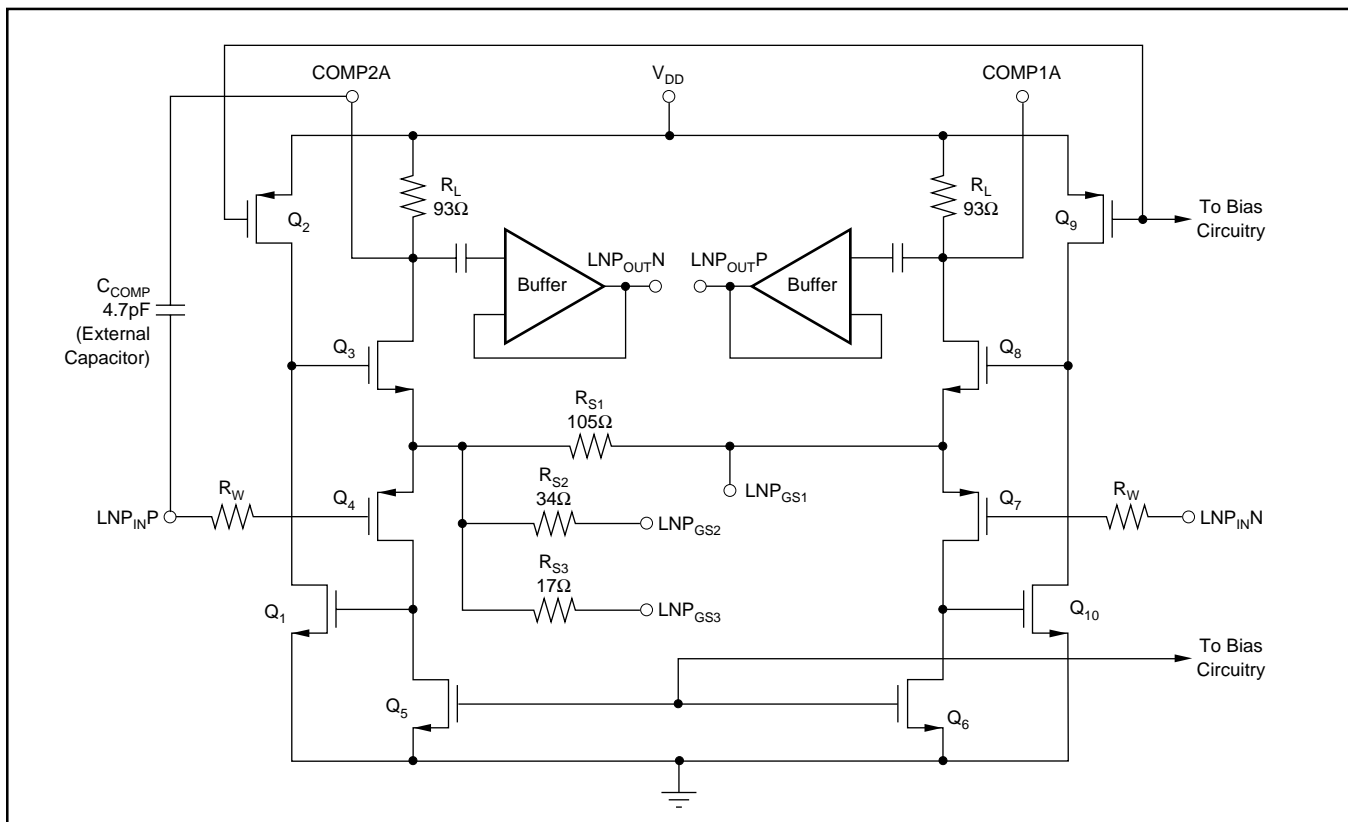
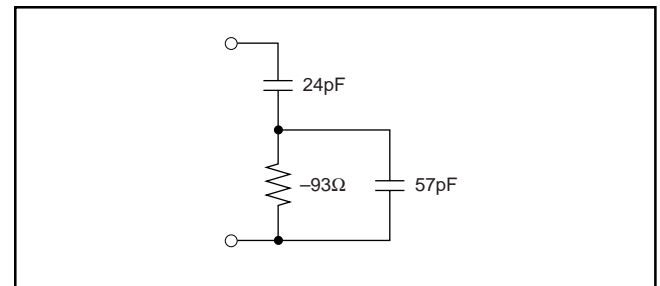

FIGURE 4. Schematic of the Low Noise Preamp (LNP).
FIGURE 11. VCA2613 Input Impedance.
The LNP is designed to achieve a low noise figure, especially when employing active termination. Figure 4 is a simplified schematic of the LNP, illustrating the differential input and output capability. The input stage employs low resistance local feedback to achieve stable low noise, low distortion performance with very high input impedance. Normally, low noise circuits exhibit high power consumption due to the large bias currents required in both input and output stages. The LNP uses a patented technique that combines the input and output stages such that they share the same bias current. Transistors *Q₄* and *Q₅* amplify the signal at the gate-source input of *Q₄*, the +IN side of the LNP. The signal is further amplified by the *Q₁* and *Q₂* stage, and then by the final *Q₃* and *R_L* gain stage, which uses the same bias current as the input devices *Q₄* and *Q₅*. Devices *Q₆* through *Q₁₀* play the same role for signals on the -IN side.
It is also possible to create other gain settings by connecting an external resistor between LNPG_{S1} on one side, and LNPG_{S2} and/or LNPG_{S3} on the other. In that case, the internal resistor values shown in Figure 4 should be combined with the external resistor to calculate the effective value of R_S for use in Equation (1). The resulting expression for external resistor value is given in Equation (2).
where R_{EXT} is the externally selected resistor value needed to achieve the desired gain setting, R_{S1} is the fixed parallel resistor in Figure 4, and R_{FIX} is the effective fixed value of the remaining internal resistors: R_{S2} , R_{S3} , or $(R_{S2} \parallel R_{S3})$ depending on the pin connections.
For greatest flexibility and lowest noise, the user may wish to shape the frequency response of the LNP. The COMP1 and COMP2 pins for each channel (pins 10 and 11 for channel A, pins 26 and 27 for channel B) correspond to the drains of Q_3 and Q_8 , see Figure 4. A capacitor placed between these pins will create a single-pole low-pass response, in which the effective R of the RC time constant is approximately 186Ω .
The VCA2612 and the VCA2613 are very similar in performance in all respects, except in the area of noise performance. See Figure 4 for a schematic of the LNP. The improvement in noise performance is because the input wiring resistor (R_W) of the VCA2613, see Figure 4, has been considerably reduced compared to the VCA2612. This brings the input noise of the VCA2613 down to $1.0\text{nV}/\sqrt{\text{Hz}}$ compared to VCA2612's $1.25\text{nV}/\sqrt{\text{Hz}}$. The input impedance at the gate of either Q_4 or Q_7 can be approximated by the network shown in Figure 11. The resistive component shown in Figure 11 is negative, which gives rise to unstable behavior when the signal source resistance has both inductive and capacitive elements. It should be noted that this negative resistance is not a physical resistor, but an equivalent resistance that is a function of the devices shown in Figure 4. Normally, when an inductor and capacitor are placed in series or parallel, there is a positive resistance in the loop that prevents unstable behavior.